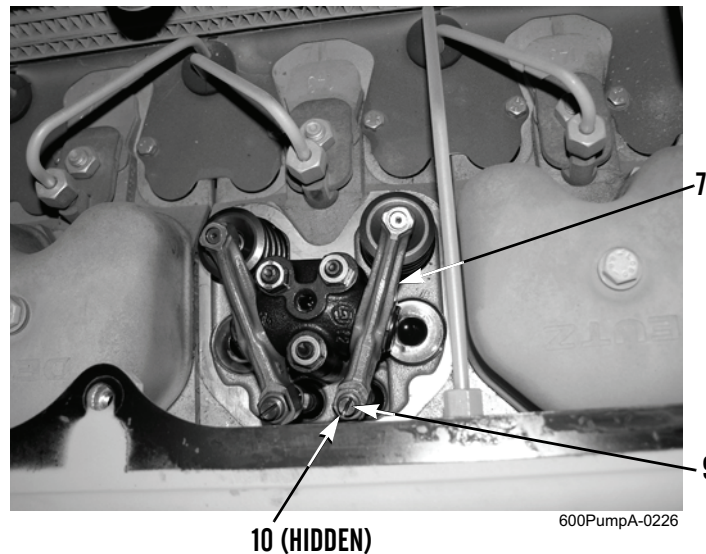

Figure 4. Adjusting Valve Clearance.
4. If necessary, loosen nut (Figure 4, Item 10) and turn adjusting screw (Figure 4, Item 9) at each rocker arm (Figure 4, Item 7) to adjust valve clearance.
5. Turn adjusting screw (Figure 4, Item 9) until valve clearance is at specification. Tighten nut (Figure 4, Item 10) to 16 to 18 lb-ft (22 to 24 Nm).